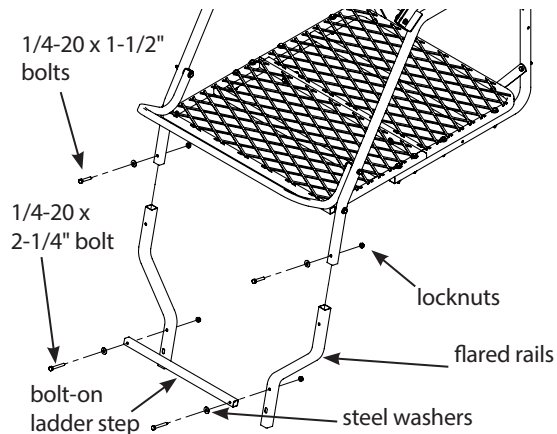

Figure 17
11. Insert the two side rails into the flared rails (410089). Secure using (2) provided 1/4-20 x 1-1/2" bolts, locknuts and steel washers. **SEE FIGURE 17.**
12. Attach the bolt-on ladder step (410034) to the front side of flared rails using (2) provided 1/4-20 x 2-1/4" bolts, locknuts and steel washers. **SEE FIGURE 17.**